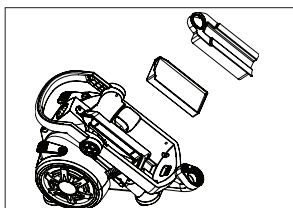

Figure 6/5
1. Lift the tab to release the front motor filter. Lift the filter cover to reach the filter. Pull the tab towards yourself to remove the filter. (Figure 6/5)